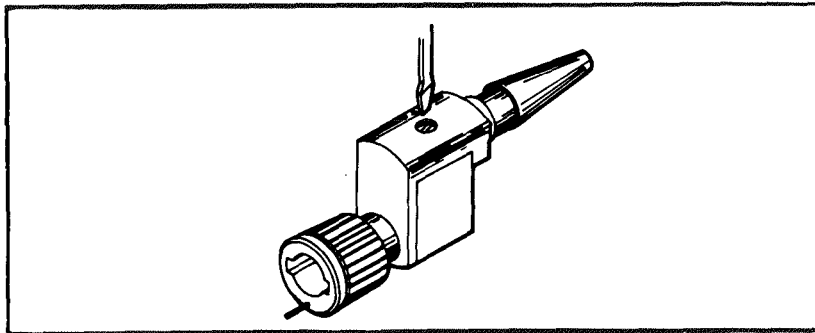

Fig. 4 Low-frequency adjustment.
3. Adjust probe compensation for best flat top on display (see Fig. 4).